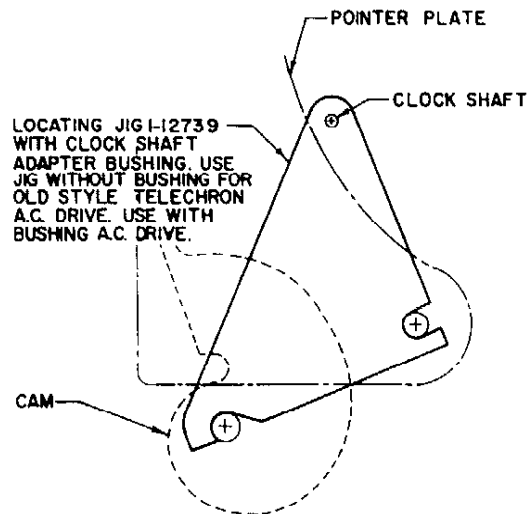

Figure 6. Positioning the Clock Motor
4.3.3.2 The clock must be accurately positioned. A locating fixture is available from the factory. See Figure 6. Accurate positioning is required to prevent the totalizer from counting while the instrument rests at zero flow.